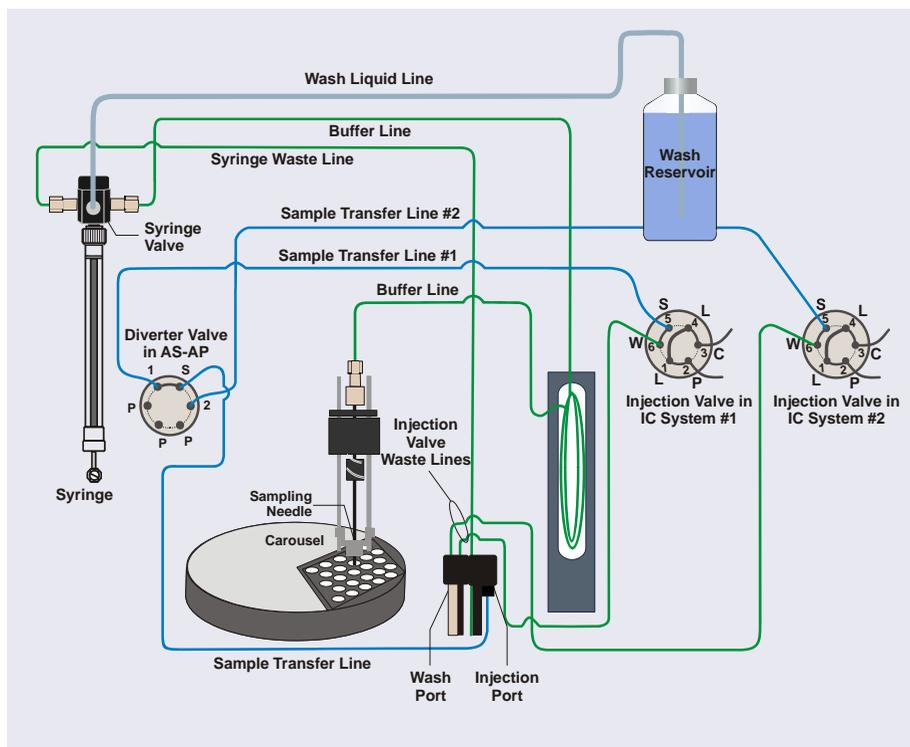

Figure 2-22. Plumbing Schematic: Sequential Mode Configuration
Figure 2-22 illustrates the Dionex AS-AP plumbing schematic for sequential injections.
3. With the injection valve in the Inject position, lowers the needle into the vial (see Figure 2-22) and then draws the sample into the needle and buffer line.